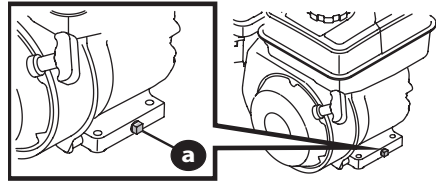

Figure 12
3. Clean area around the oil drain plug (a) (Figure 12).
5. Remove the oil drain plug (Figure 12).